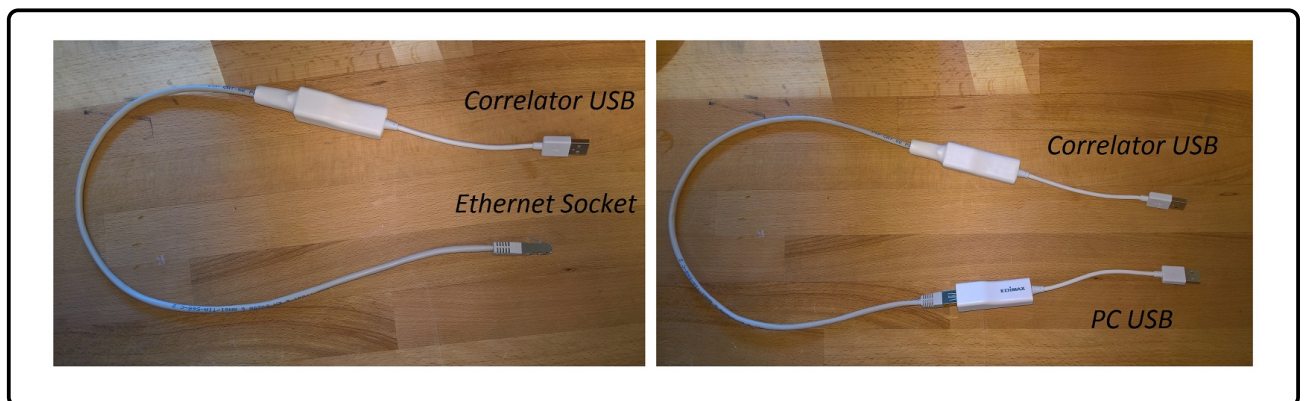

Figure 3.2: USB/Ethernet and USB/USB cable configurations
If the *LSI Correlator* is powered, it must be also connected to a computer for data transmission. Two connection modes are possible according to Fig. 3.2: (1) USB/Ethernet (left) allows to connect the LSI Correlator USB port to the Ethernet Network or directly to the computer Ethernet socket; (2) USB/USB connects the correlator USB port to the computer USB port.